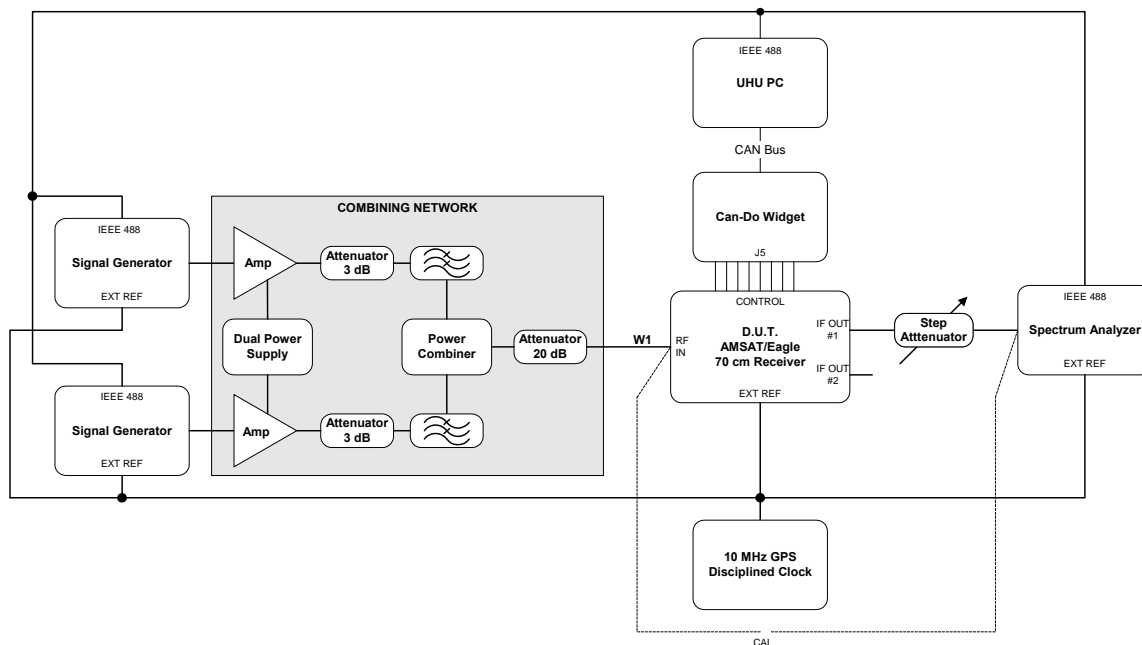

Figure 23-1. Output Third Order Intermodulation Test Configuration
- 23.1 Set up the equipment as shown in Figure 23-1. Output Third Order Intermodulation Test Configuration, and connect the power combiner output directly to the spectrum analyzer using low-loss test cable W1 as indicated by the dashed “cal” line.
¹ There appear to be guard bands between PAVE PAW channels (see Figure 23-1) but PAVE PAWS IM₃ products could easily appear there. Testing at -44 dBm will characterize the impact of PAVE PAWS IM₃ on the receiver.
- 23.14 Reconfigure the test setup to match Figure 23-1.
² See Figure 23-1
Refer to Figure 23-1 for test configuration. The first step is to accurately set the two signal levels. Use the high-performance HP 8662A to simulate PAVE PAWS (Signal generator 1), and the HP 8656B to simulate the Amateur Radio uplink (Signal generator 2).